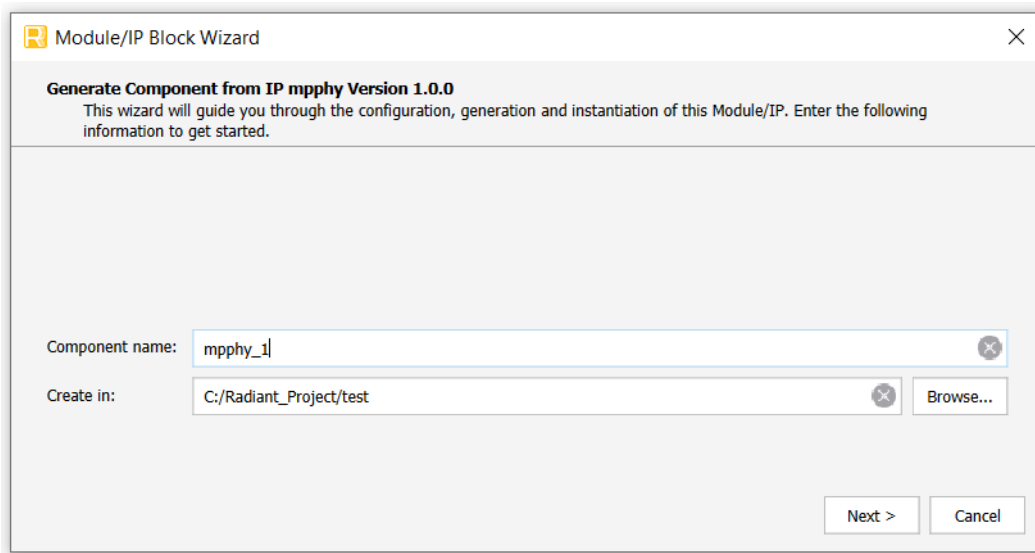

Figure 3.1. Module/IP Block Wizard
3. The **Module/IP Block Wizard** opens as shown in Figure 3.1.
- Click **Finish**. All the generated files are placed under the directory paths in the **Create in** and the **Component name** fields shown in Figure 3.1.